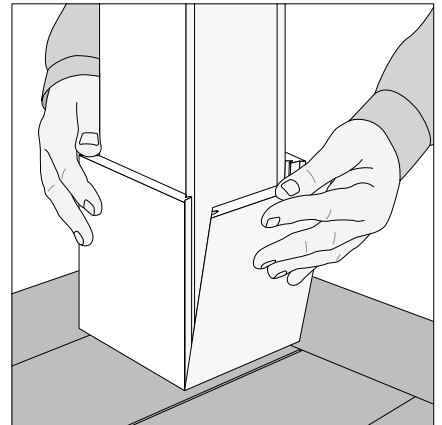

Fig. 5b
- Apply a small bead of Kleer Cellular PVC Adhesive (4-7 or 20-25 Minute Work Time) to the outside surfaces of each tongue on the remaining male piece. Slide the tongues on the male part into the grooves of the two female parts to complete the assembly (**Fig. 5b**).